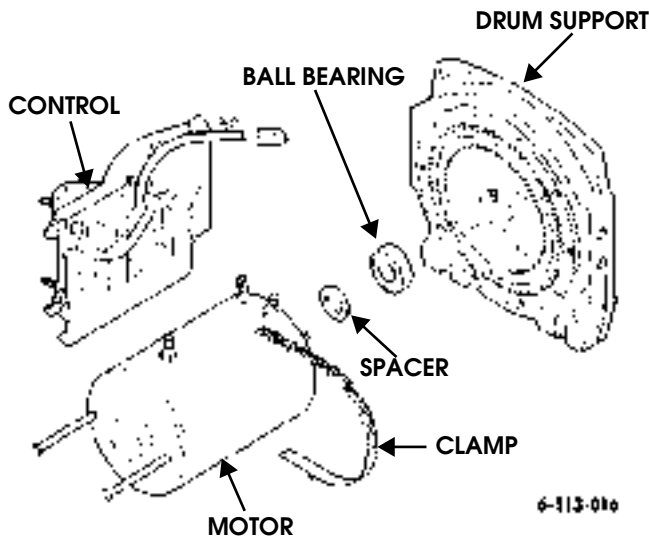

Figure 9-179: Control Unit and Motor
3. Loosen clamp and remove control from motor (Figure 9-179).